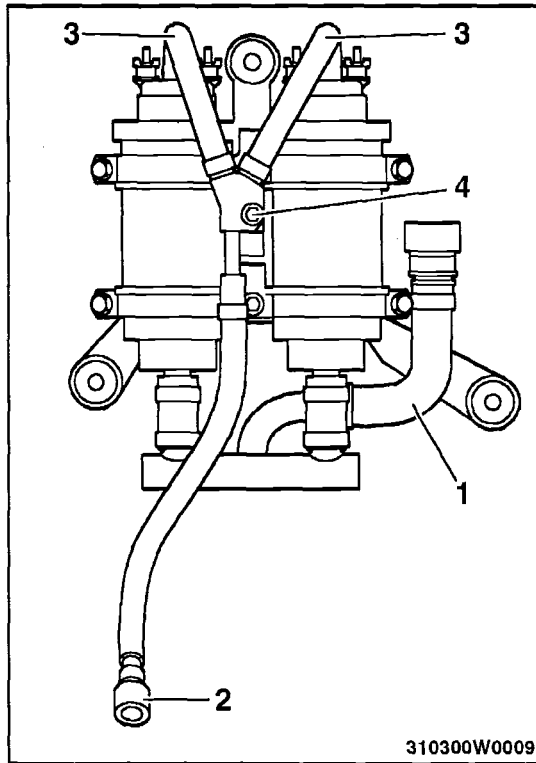

Figure 1
7. Attach a clamp to the outlet hose from the fuel tank, see figure 1 item 1
8. Prepare the quick connector item 2 figure 1 for disconnection
11. Use pliers part number PF 29155PA to release hose clips then disconnect both fuel pump outlet hoses, items 3 in figure 1
12. Remove the 5mm bolt securing the fuel pump outlet hose assembly to the fuel pump bracket (item 4 figure 1), remove and discard the fuel pump outlet hose assembly
14. Position one Oetiker hose clip (part number N10023201) onto each fuel pump outlet hose before pushing each hose onto the fuel pump outlet ports see figure 1 items 3
16. Prepare the quick connector item 2 figure 1 for reconnection